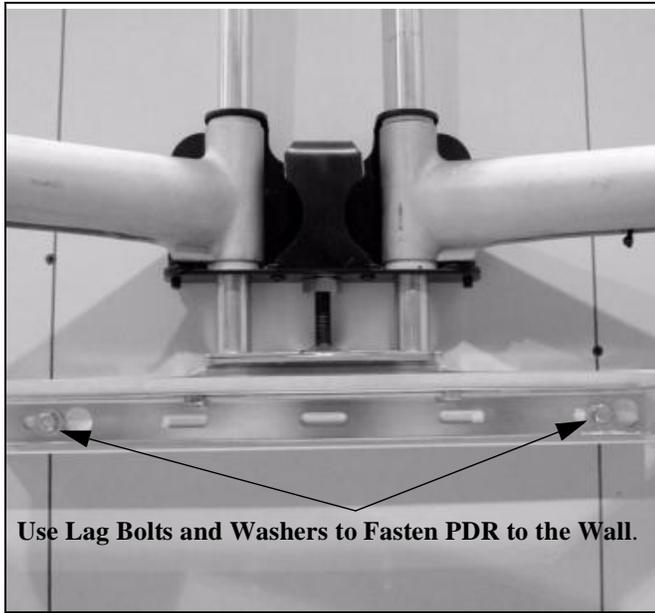

Figure 3
1. Mark the two mounting holes in the bottom mounting bracket (See figure 3). Make sure to align the holes parallel to the holes drilled in the top bracket.
3. Install two 3/8" x 2-1/2" lag bolts and two 3/8" flat washers, in the pilot holes drilled in step 2. (See Figure 3)